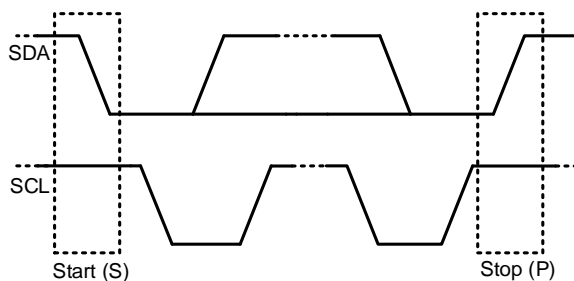

Figure 9: Start and Stop Commands
Start (S) and stop (P) commands are signaled by the master device, which signifies the beginning and the end of an I²C transfer. A start command is defined as the SDA signal transitioning from high to low while the SCL is high. A stop command is defined as the SDA signal transitioning from low to high while the SCL is high (see Figure 9).